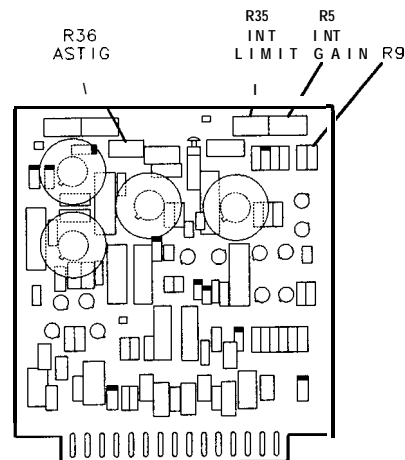

Figure 3-8. Location of A1A2 Components
31. With the front-panel INTENSITY control fully counter clockwise, adjust **A1A2R35** INT LIMIT (clockwise) until a spot is just visible in the lower left corner of the CRT. See Figure 3-8 for the location of the adjustment.
The **A1A2R35** INT LIMIT adjustment compensates for the variation in beam cut-off voltage of different CRTs and indirectly sets the maximum beam intensity. **A1A2R35** INT LIMIT should have enough range to turn the CRT spot on and off. If the spot is always on, decrease the value of **A1A2R9**. If the spot is **always** off, increase the value of **A1A2R9**. Refer to **Table 3-3** for the acceptable range of values, and to **Table 3-4** for HP part numbers. Refer to Figure 3-8 for the location of **A1A2R9**.